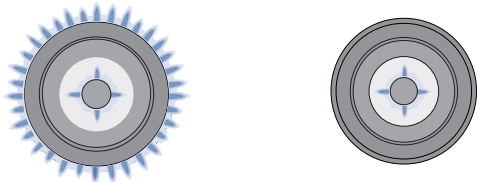
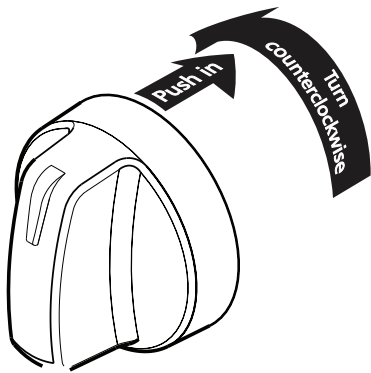

Figure 11: Burner at highest (L) setting and simmer (R)
Figure 12: Setting the double ring burner
2. Visually check that both inner and outer rings for the Double Ring burner are lit (Figure 11). Once lit, turn the control counterclockwise and adjust to the desired flame size.
3. When adjusting for a low or simmer type flame setting, continue to rotate the control knob counterclockwise from HI setting towards LO (Figure 12). When the knob is turned close enough towards the LO setting, the flame for the outer ring portion of the burner will turn off leaving only the inner burner with a flame for simmering (Figure 11). Make any further flame adjustments as needed..